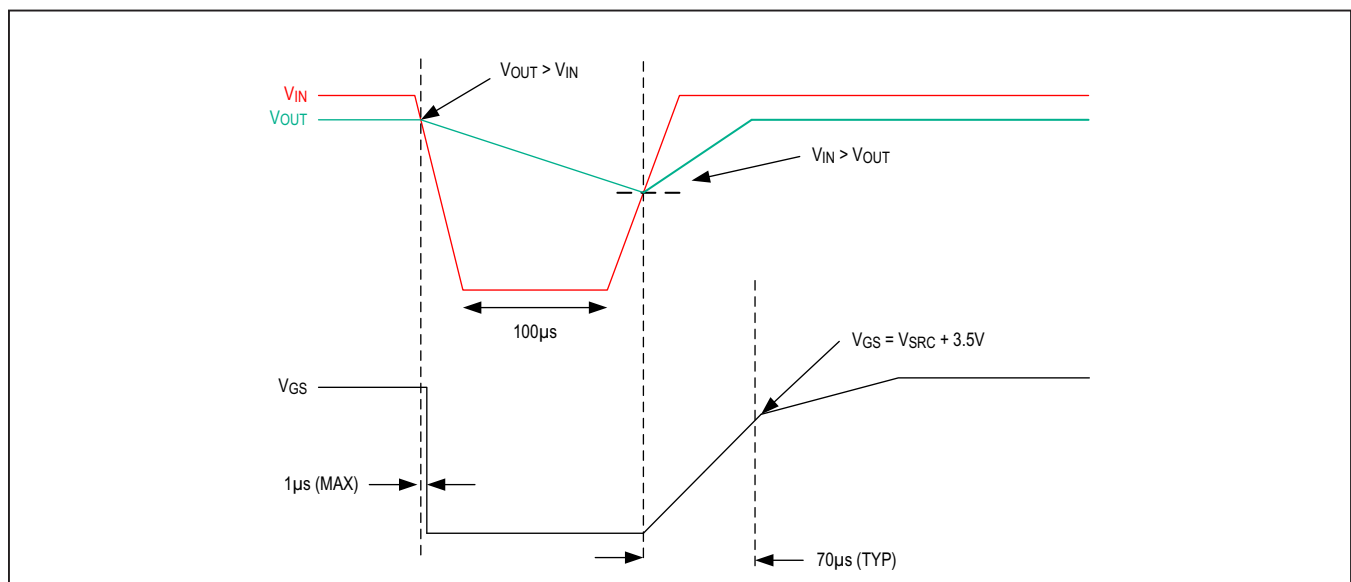

Figure 4. Short Power Interruption and Recover
In an automotive environment, systems usually experience brief power interruptions where the main supply is shorted to ground. The power interruption may last for several seconds; and the only source of power to system load is the output capacitance. To ensure fast recovery, an auxiliary input (V_{CC}) helps keep the MAX16141/MAX16141A standby mode for 100µs (typ). When the main supply input (IN) recovers, the MAX16141/MAX16141A initiate a fast recovery mode that allows the gate to reach its peak voltage within 70µs (typ). See Figure 4 for more detail. Therefore, brief power supply interruptions will not affect operation of the load, as long as the load-side